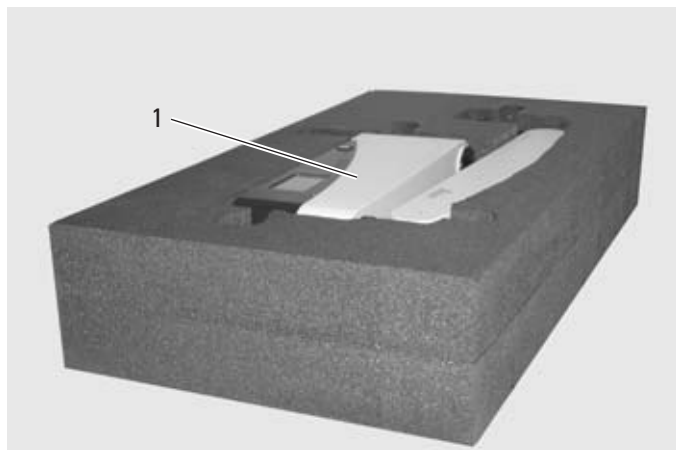

Fig. 1
- ⇒ Open the crate with the swing arm and remove the swing arm (1) from the crate (Fig. 1).